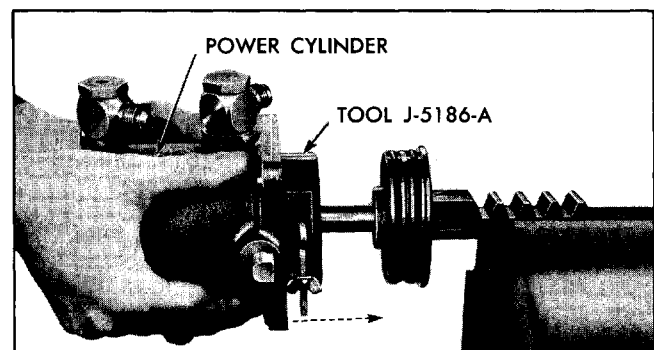

Fig. 9-48 Installing Piston and Adapter in Cylinder
8. Install piston and adapter assembly into cylinder using tool J-5168-A to compress piston rings (Fig. 9-48). Hold adapter against power rack while installing piston to prevent ring compressor from cutting "O" ring seals. **NOTE:** Position ring gaps on opposite sides of piston.